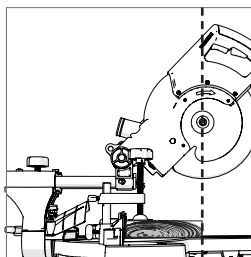

Fig. 27
- Grasp the Cutting Handle and pull the Cutting Head forward until the arbor (centre of saw blade) is over the front edge of the workpiece. **(Fig. 27)**